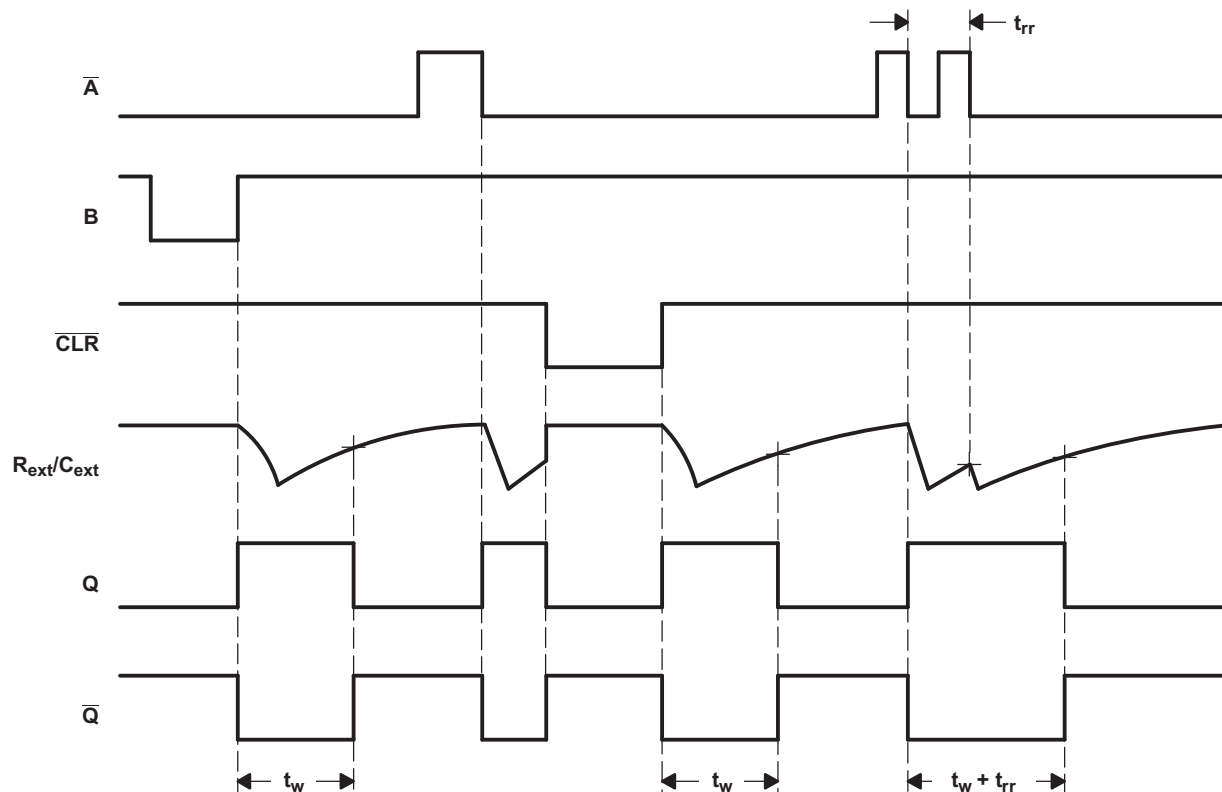

Figure 7. Input and Output Timing Diagram
Once triggered, the basic pulse duration can be extended by retriggering the gated low-level-active ($\overline{A}$) or high-level-active (B) input. Pulse duration can be reduced by taking $\overline{CLR}$ low. The Figure 7 illustrates pulse control by retriggering the inputs and early clearing.